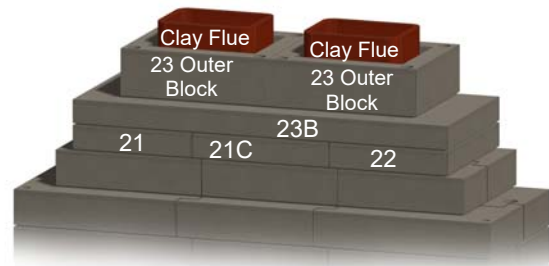

Figure 19. Stone Age Masonry Chimney
M. Install Stone Age masonry chimney system, consisting of clay liners and outer blocks, or Stone Age Pipe Adapters if installing a metal pipe chimney. See Figures 19 and 20.